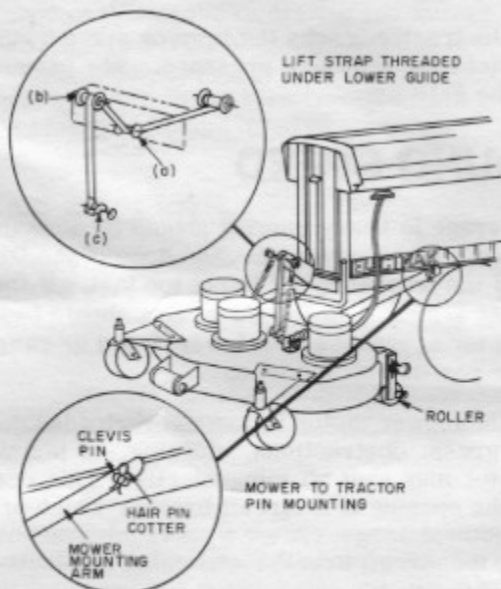

Figure 6
2. Secure the mounting arms to the tractor frame with the clevis pins and hair pin cotters supplied with the tractor. (See insert Fig. 6.) Installation is eased by pushing the clevis pin back in flush to the frame side, then lining up the hole in the mower arm and pushing the pin through the arm.
- (b) as shown in the insert Fig. 6. Attach it to the mower lift clevis pin (c).